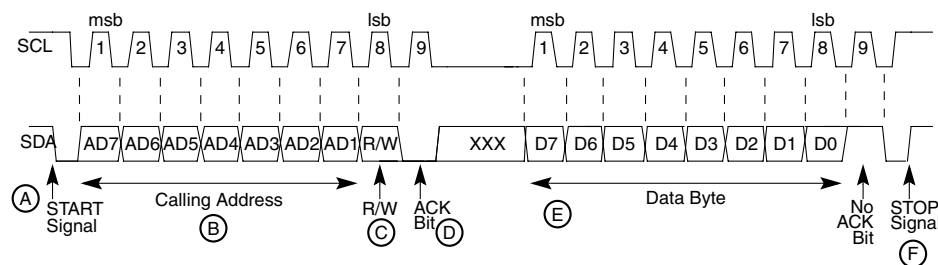

**Figure 8-2. I2C Standard Communication Protocol**
1. **START signal**—When no other device is bus master (both SCL and SDA lines are at logic high), a device can initiate communication by sending a START signal (see A in Figure 8-2). A START signal is defined as a high-to-low transition of SDA while SCL is high. This signal denotes the beginning of a data transfer (each data transfer can be several bytes long) and awakens all slaves.
Data can be changed only while SCL is low and must be held stable while SCL is high, as Figure 8-2 shows. SCL is pulsed once for each data bit, with the msb being sent first. The receiving device must acknowledge each byte by pulling SDA low at the ninth clock; therefore, a data byte transfer takes nine clock pulses.